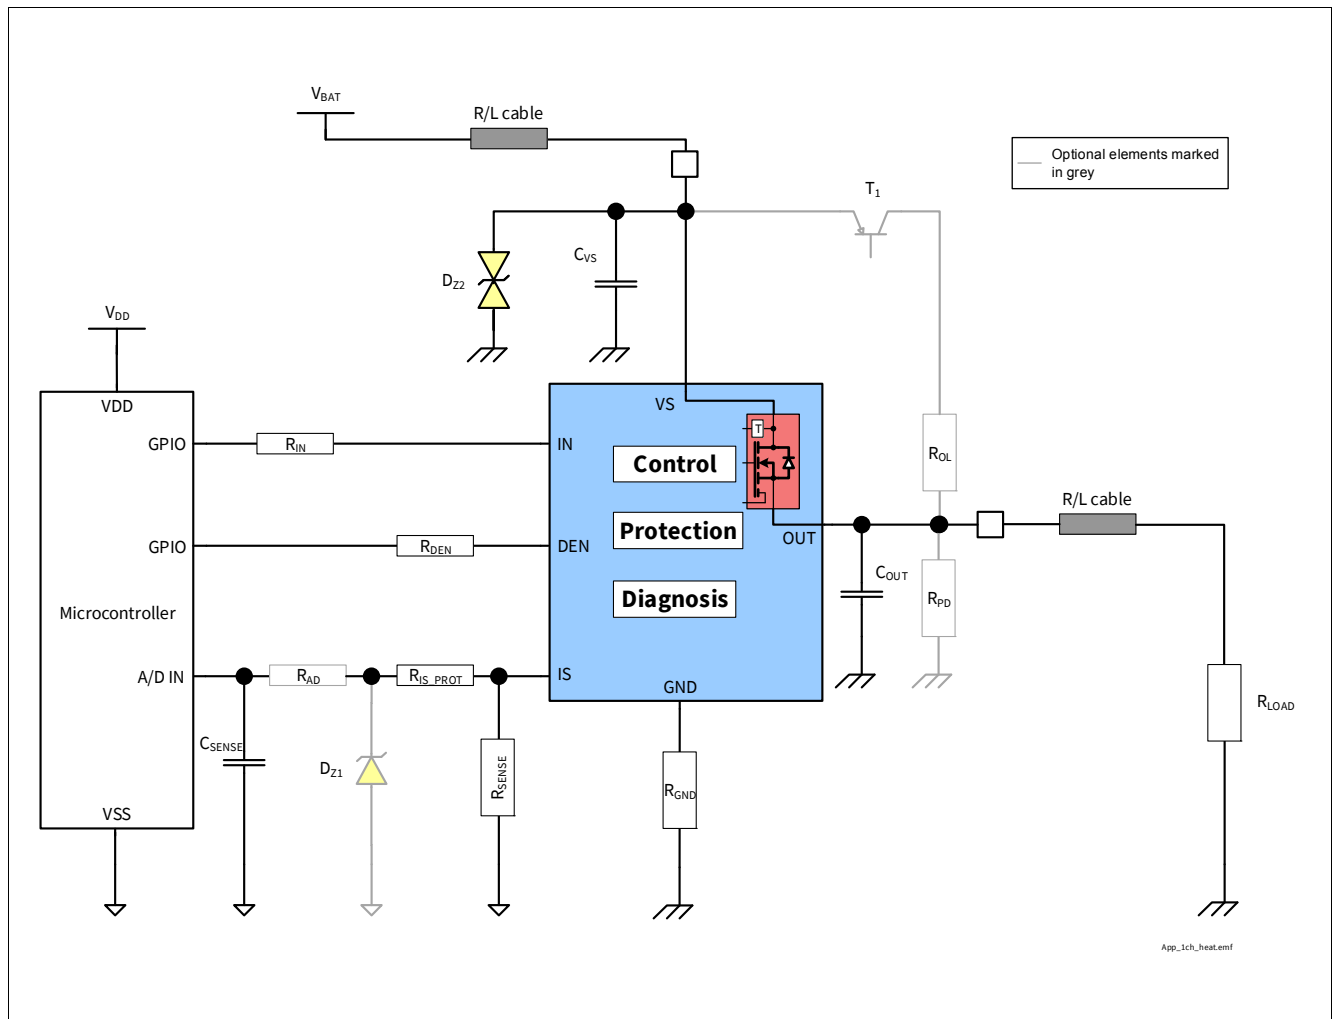

Figure 37 BTS7006-1EPP Application Diagram
1.01 , 2018-06-14	Page numbering corrected Figure 29 updated Figure 1 updated Figure 37 updated